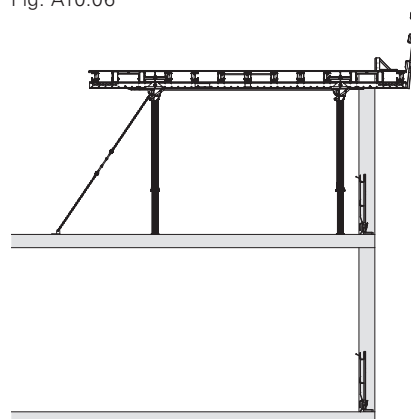

Fig. A10.07
6. Fold out the MULTIPROP MP (11b), set down the slab table and brace. (Fig. A10.07)